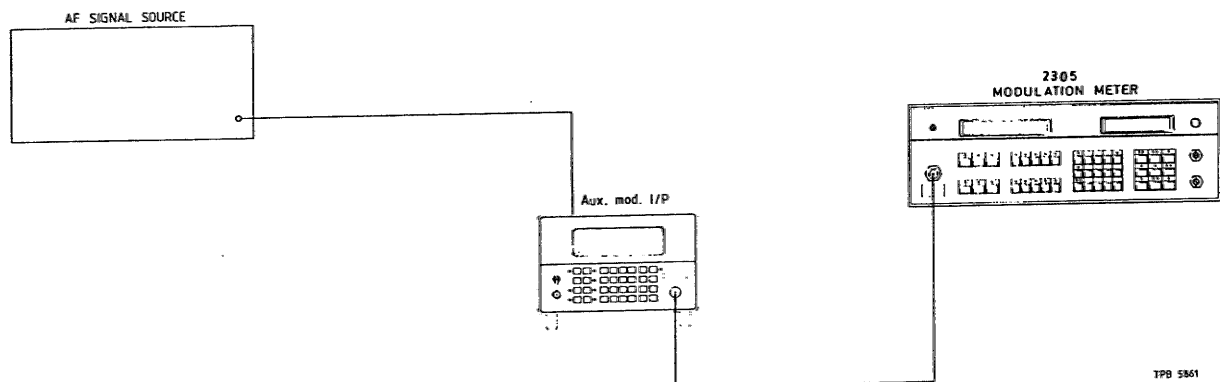

Fig. 5-9 Test gear arrangement to check auxiliary modulation
- (1) Connect the test equipment as shown in Fig. 5-9.
- (2) Set the AF signal source to give a frequency of 1 kHz at 1.00 V RMS.
- (3) Set the 2022E controls as follows :